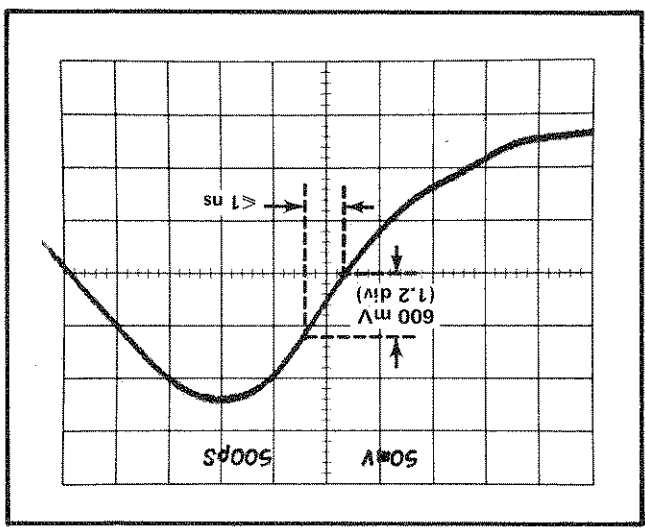

Fig. 5-1. Waveform of TRIG OUT leading edge showing Rise Rate. (2X attenuator in 7M11 and 5X attenuator in signal path for 500 mV/div.)
b. Check any portion of the rise to be greater than 600 mV (1.2 divisions) in 1 ns. See Fig. 5-1.